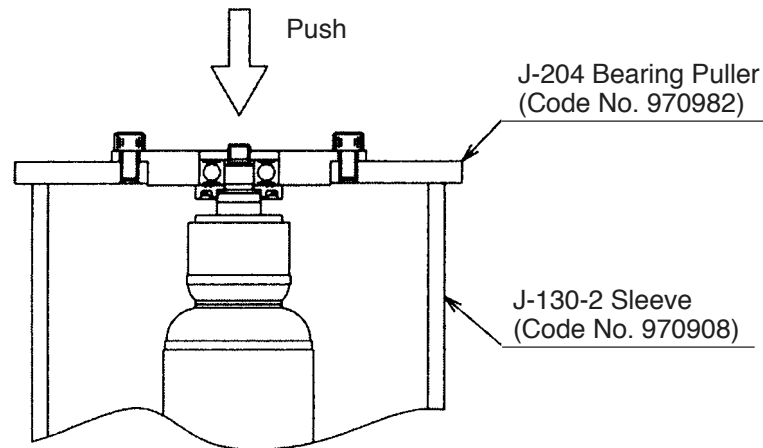

Fig. 11
2. As shown in Fig. 11, put the J-204 Bearing Puller (Code No. 970982) on the J-130-2 Sleeve (Code No. 970908) and push the armature shaft with a hand press to pull out the Ball Bearing 608VVC2PS2L **[9]** **<9>**.